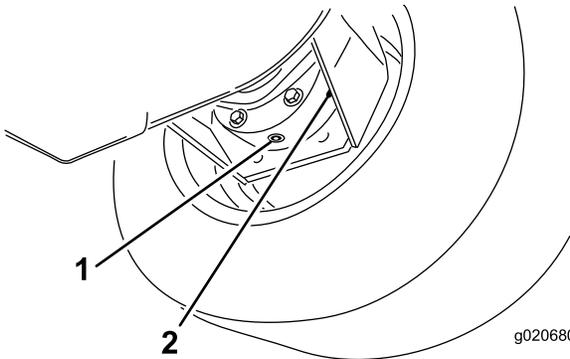

Figure 84
3. Place a drain pan under the brake housing, remove the drain plug, and allow the oil to drain (Figure 84).